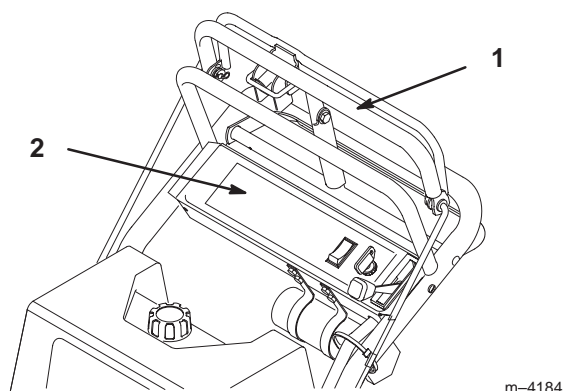

Figure 14
3. Slowly press on the upper control bar to move forward (Fig. 14).
To go straight, apply equal pressure to both ends of the upper control bar (Fig. 14).
To turn, release pressure on the upper control bar side away from the direction you want to turn (Fig. 14).
3. Slowly squeeze the lower control bar and handle together to move rearward (Fig. 14).